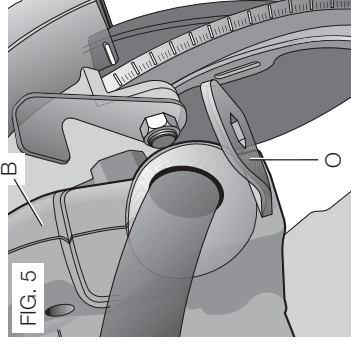

FIG. 5
2. Place outer clamp washer (N) on saw spindle with the large flat surface against the blade and the wording on the outer clamp washer facing you.
3. Thread blade clamping screw (J) into saw spindle by hand (screw has right-hand threads and must be turned clockwise to tighten).
4. Depress the blade lock (C) while turning the saw spindle with the blade wrench (O) stored underneath the main handle (B) (Fig. 5), until the blade lock engages and the blade stops rotating.